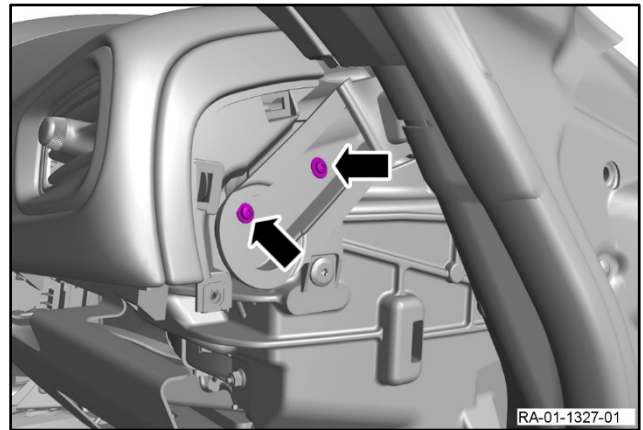

Figure 1
2. Remove the two screws that attach the duct for the door (refer to Figure 1).
8. Install the two screws that attach the duct for the door (refer to Figure 1).
5. Install the two screws that attach the duct for the door (refer to Figure 1).